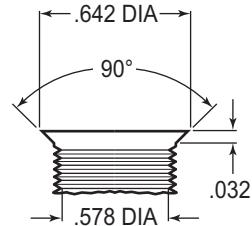

Figure 3. Drill and Tap Detail
Top anchor pin hole (Z) must be drilled and tapped to the dimensions as outlined in figure 3. Bottom rear steering arm bolt hole (Y) in the spindle and steering arm must be enlarged to .50" by drilling. A 1/2-20 backing nut (not supplied in kit) will need to be acquired to torque bracket / steering arm bolt (supplied in kit).